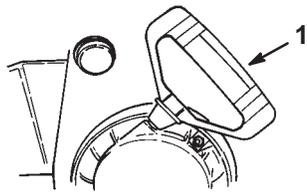

Figure 22
- **Recoil Starter** (Fig. 22)—The recoil starter is on the back side of the engine. Pull the recoil starter to start the engine.
- Grasp the recoil starter handle (Fig. 22) and pull it out slowly until positive engagement results; then pull the handle vigorously to start the engine.